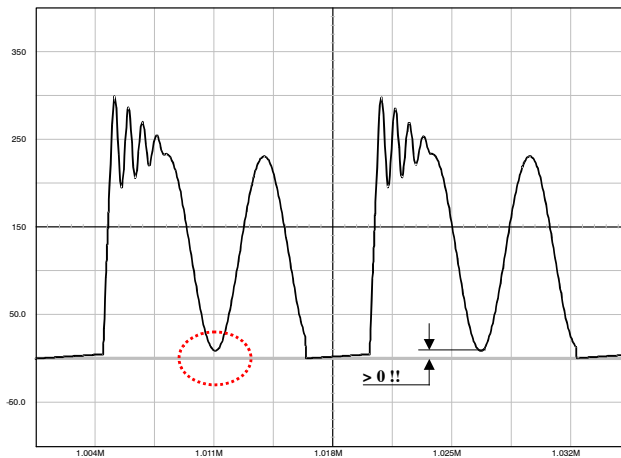

Figure 47. The Drain-source Wave Shall always be Positive
1. The lateral MOSFET body-diode shall never be forward biased, either during start-up (because of a large leakage inductance) or in normal operation as shown in Figure 47. This condition sets the maximum voltage that can be reflected during toff. As a result, the Flyback voltage which is reflected on the drain at the switch opening cannot be larger than the input voltage. When selecting components, you thus must adopt a turn ratio which adheres to the following equation:
Figure 49a: the simple capacitor limits the voltage according to the lateral MOSFET body-diode shall never be forward biased, either during start-up (because of a large leakage inductance) or in normal operation as shown by Figure 47. This condition sets the maximum voltage that can be reflected during t_{off} . As a result, the flyback voltage which is reflected on the drain at the switch opening cannot be larger than the input voltage. When selecting components, you must adopt a turn ratio which adheres to the following Equation 3. This option is only valid for low power applications, e.g. below 5 W, otherwise chances exist to destroy the MOSFET. After evaluating the leakage inductance, you can compute C with (Equation 4). Typical values are between 100 pF and up to 470 pF. Large capacitors increase capacitive losses...